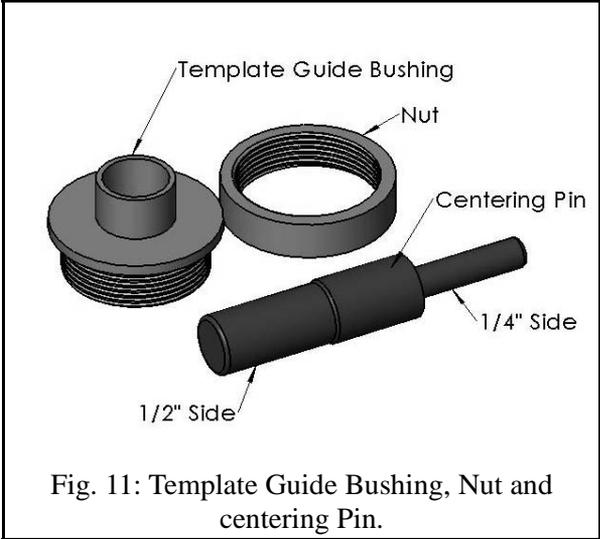

Fig. 11: Template Guide Bushing, Nut and centering Pin.
**Step 1.** The **template guide bushing** includes a **centering pin** that allows you to install it perfectly concentric with your plunge routers collet. Referring to Fig. 11, insert the appropriate end of the **centering pin** into your plunge routers 1/4" or 1/2" collet. Tighten the collet. Then install the **template guide bushing** by placing it into the counter bore of your plunge